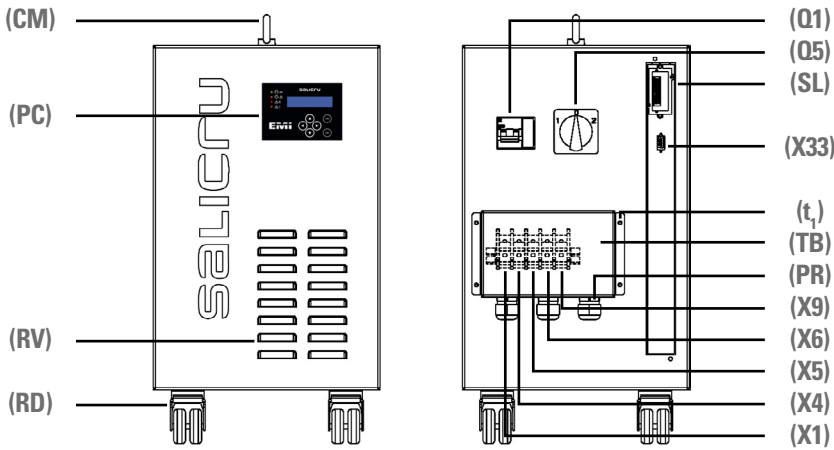

Fig. 1. Views of single phase equipment in case, format nr 1.
Tables from 1 to 8 show the standardised models with their physical dimensions and weights, as well as the correlation with the illustrations of Fig. 1 to 11.
- ⁽⁰⁾ Models identified in tables 1, 3, 5 and 7 with this annotation ⁽⁰⁾, do not include the slot for SICRES (SL) and the RS232 connector (X33) as standard.
- ⁽²⁾ The lifting lugs are not contemplated in the total height of the equipment in the models corresponding to Fig. 1, 2 and 3. The lifting lug height is 45 mm, add it to the height stated in each model to get the total height.